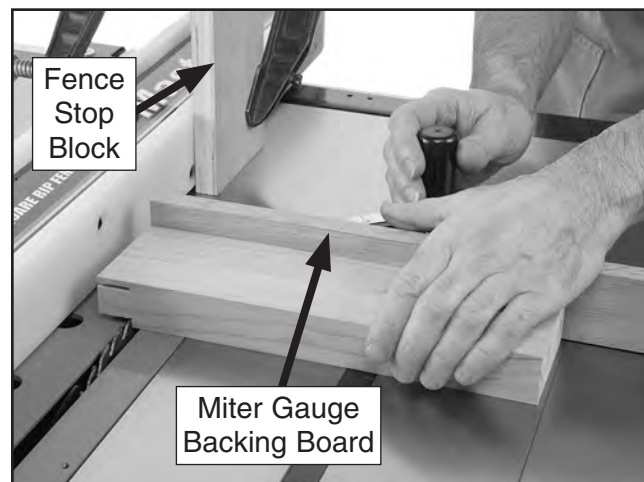

Figure 28. Making a tenon shoulder cut.
4. Install the table saw fence and clamp a stop block to it so that the workpiece can be placed against it to properly align the cut, as shown in **Figure 28**.
5. Attach a backing board to the miter gauge that is aligned even with the end of the workpiece, as shown in **Figure 28**.